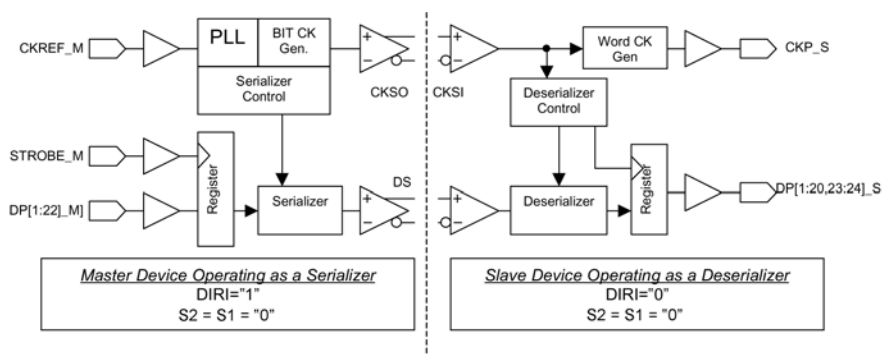

FIGURE 8. Simplified Block Diagram for Unidirectional Serializer and Deserializer
Figure 8 shows the basic operation diagram when a pair of SerDes is configured in an unidirectional operation mode.
**Master Operation:** The device will... (Please refer to Figure 8)